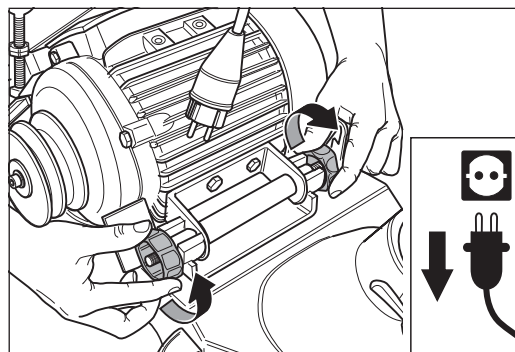

Fig. 103 Loosen the two motor nuts.
- 4 Loosen the two motor nuts at the motor bearing bracket (fig. 103).